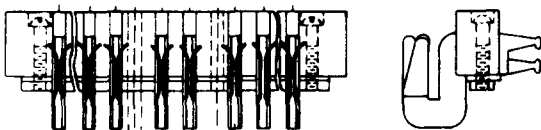

Fig. 14—344 or 344E Jack
2.14 **344 and 344E:** These multicontact jacks (Fig. 14) are used with the 242A plug and have eight pairs of contacts. These jacks consist of a wooden strip on which are mounted a number of pairs of contact springs. These jacks are intended to be mounted on the shelf framework used for mounting wired assemblies of Step-by-Step Dial Switching Systems and to engage the plugs mounted on the rear of the mounting plates of these assemblies. These jacks are furnished with the springs adjusted, but can be adjusted when assembled in equipment units so that the two springs in any or all sets of the springs will make contact with each other when the plug is removed.